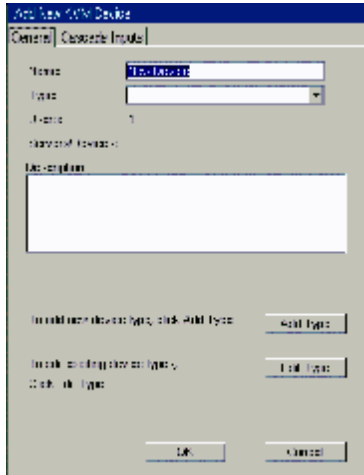
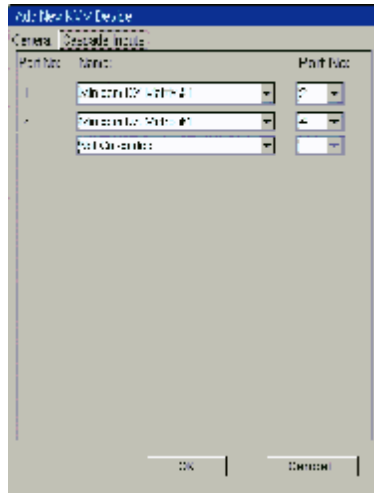

Figure 35 Add New KVM Device box
Figure 39 Cascade Inputs box
Click . The Add New KVM Device box appears. See Figure 35.
2. Type a name for the Legacy switch type (This is not the same as the Name field in Figure 35. This is name of the switch type that will appear in the Type drop-down menu in Figure 35).
In the Add New KVM Device box Figure 35, click the Cascade Inputs tab. Figure 39 appears.